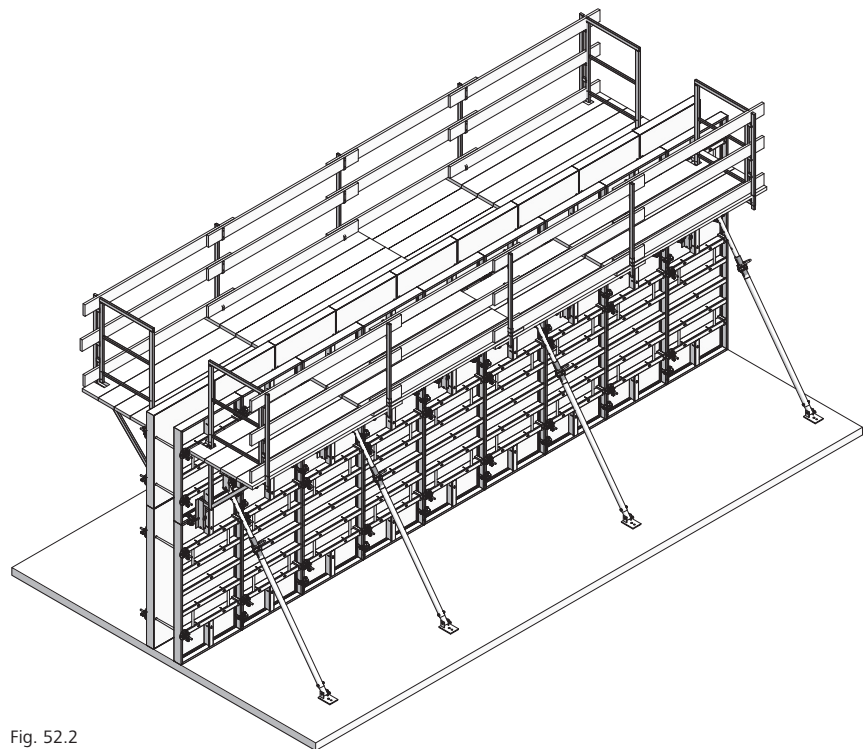

Fig. 52.2
3. Continue erecting the second side panels in the same manner, connecting them with assembly locks (Fig. 52.2).